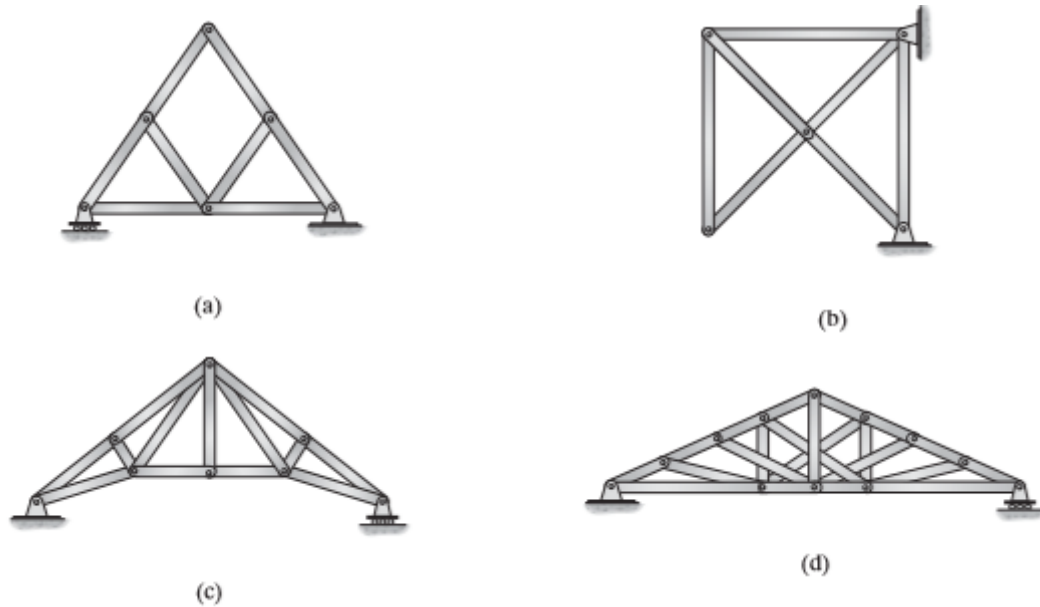

Fig. 1
1. Classify each of the following trusses given in Fig. 1 as statically determinate, statically indeterminate, or unstable. If indeterminate, state its degree.